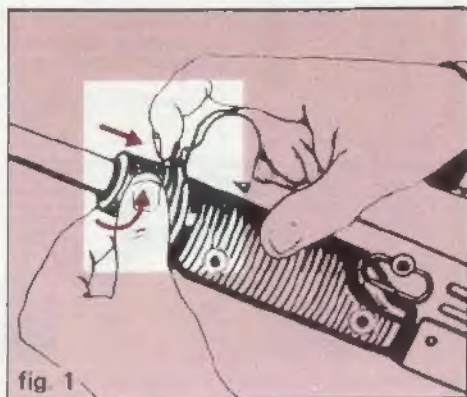

fig. 1
1. Depress barrel retaining nut catch. (fig. 1).